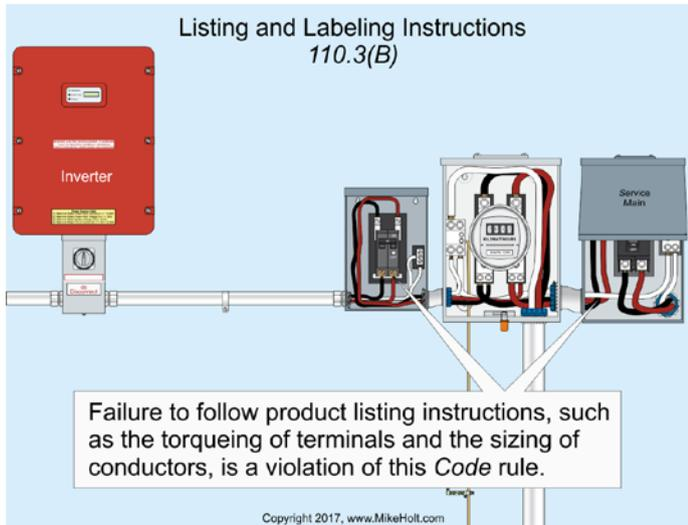

Figure 110-2
- Failure to follow product listing instructions, such as the torquing of terminals and the sizing of conductors, is a violation of this *Code* rule. Figure 110-2
**(C) Product Listing (Certification).** Product certification (testing, evaluation, and listing) must be performed by a recognized qualified testing laboratory in accordance with standards that achieve effective safety to comply with the *NEC*.